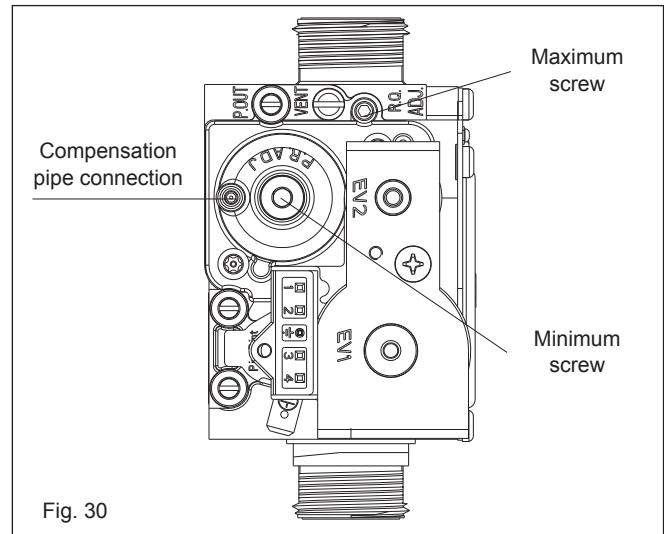

Fig. 30
- Using a suitable screwdriver, very slowly turn the maximum adjustment screw (see fig. 30) – clockwise to decrease, counter clockwise to increase – until the correct value is displayed on the CO₂ analyser (allow time for the analyser to stabilise).
- Using a 2.5mm Allen key, very slowly turn the minimum adjustment screw (see fig. 30) – clockwise to increase, counter clockwise to decrease – until the correct value is displayed on the CO₂ analyser (allow time for the analyser to stabilise).